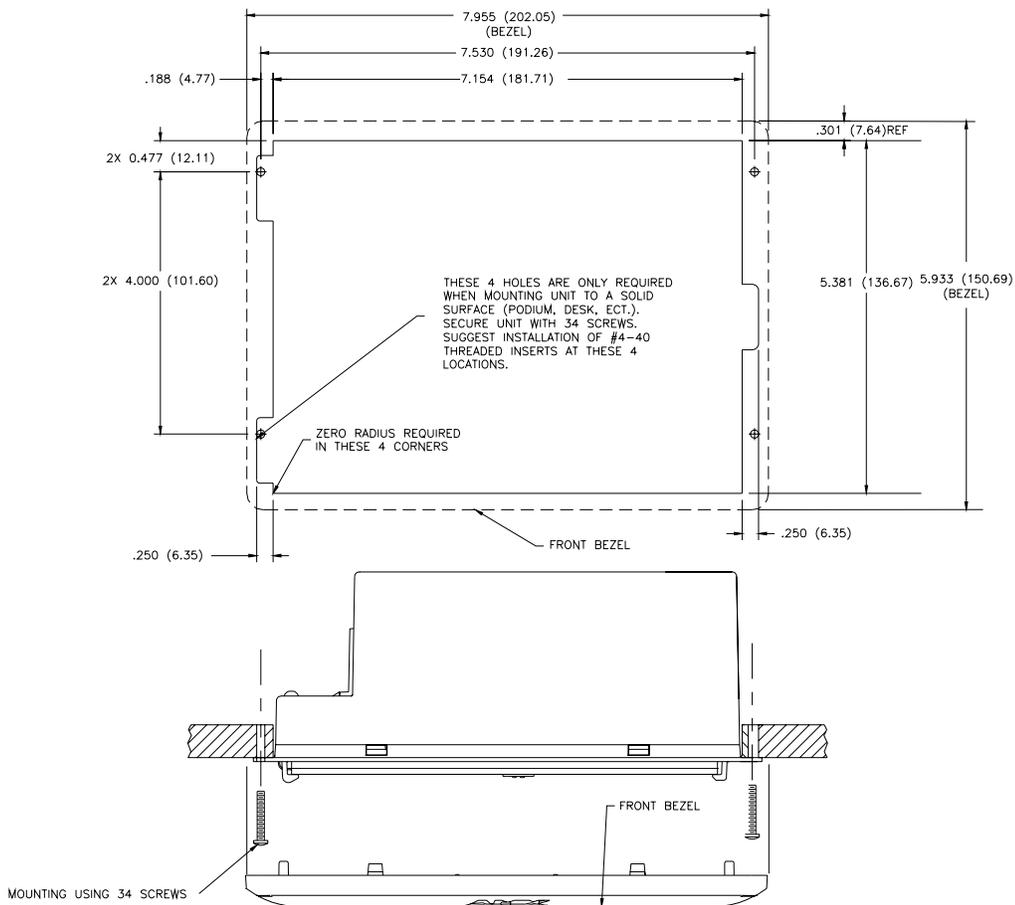

FIG. 38 NXD-CV7 Wall Mount panel dimensions using #4-40 mounting screws
- Refer to **SP-2258-01** for detailed installation dimensions (reproduced in FIG. 38).
2. Cut out the surface for the NXD Wall Mount unit using the dimensions shown in FIG. 38.